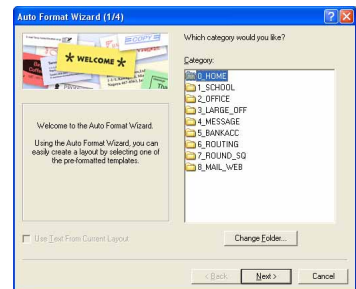

figure 1
- 2 Select a category, and then click the Next button (see figure 1).